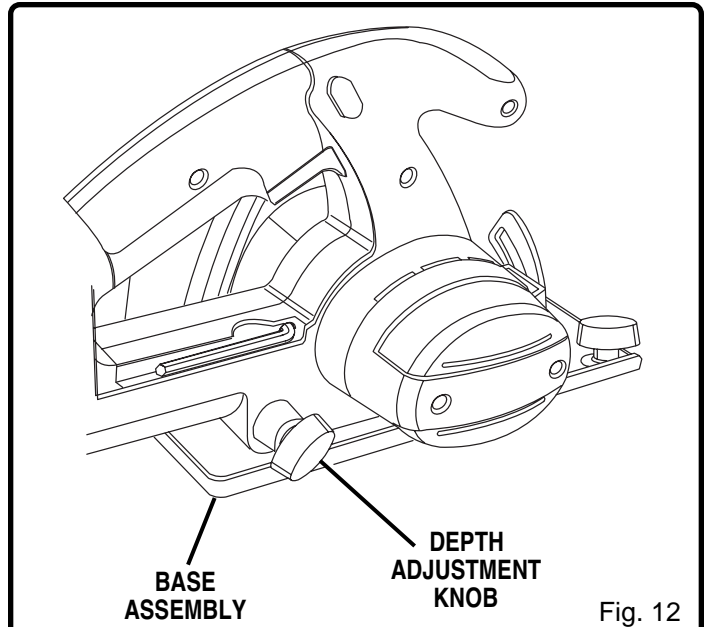

Fig. 12
- Loosen depth adjustment knob. *See Figure 12.*